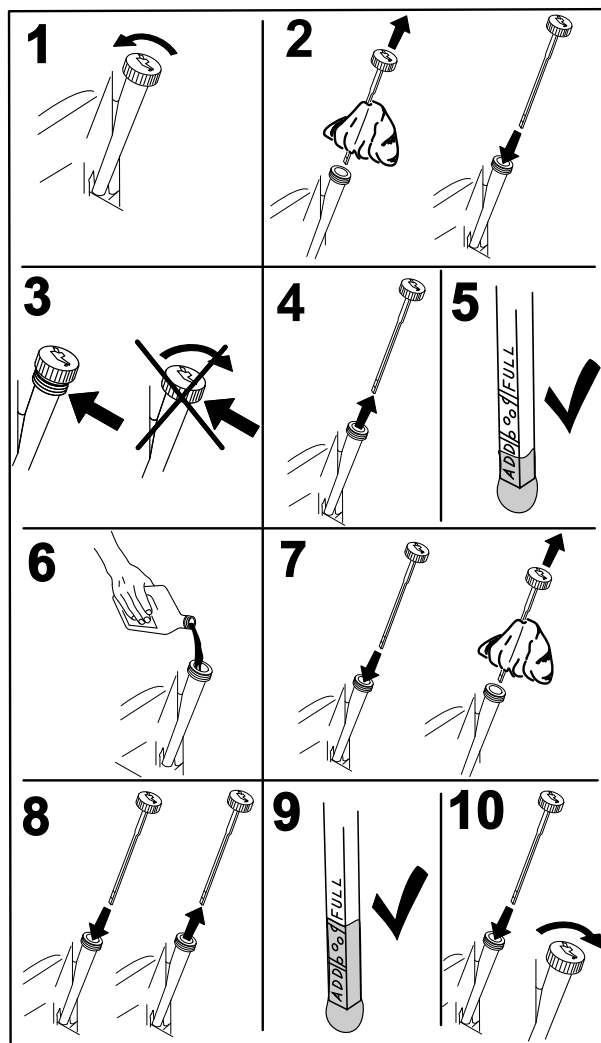

Figure 41
2. Stop the engine, remove the key, and wait for all moving parts to stop before leaving the operating position (Figure 41).